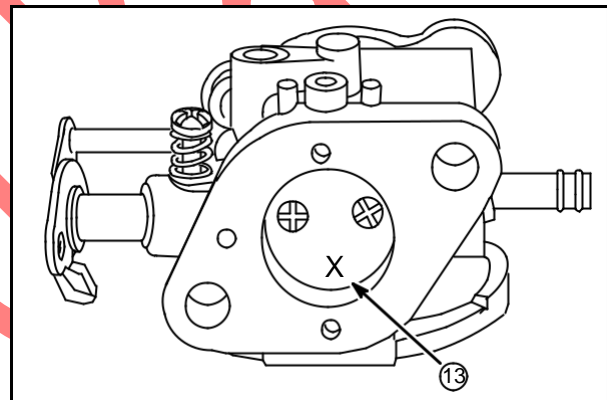

Fig. 28
The top and bottom edges of the throttle plate are beveled. Mark throttle plate (13) before removing to ensure reinstallation in the original position, Fig. 28.